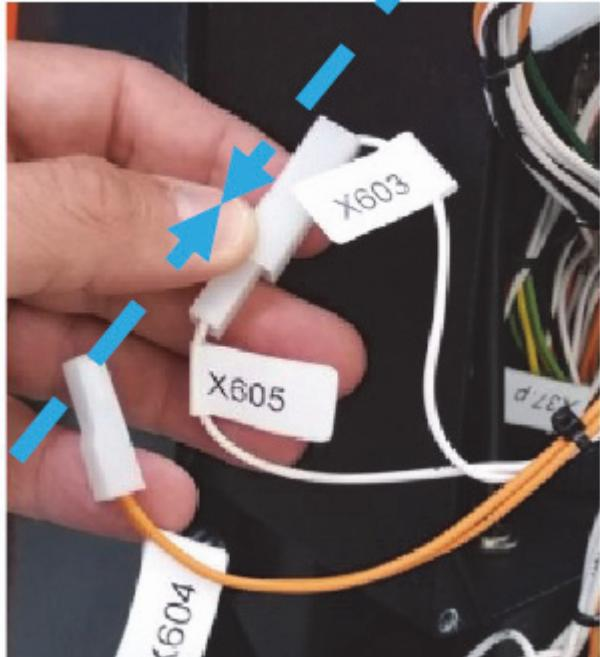

Figure 4-60.
- 12.** Connect connector X603 to connector X605. See Figure 4-60.